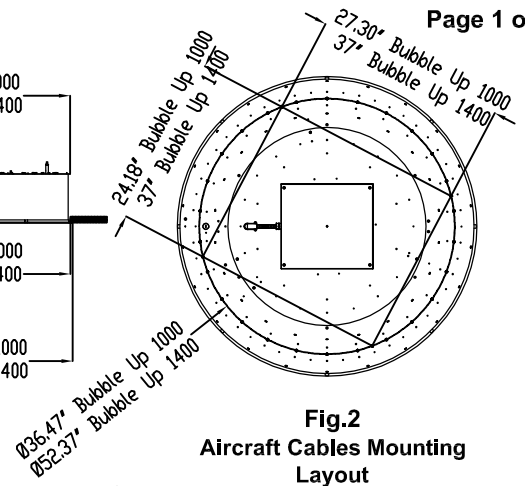

Fig.2
2. Attach four aircraft cables to sub-structure above the ceiling according to the mounting layout on Fig.2